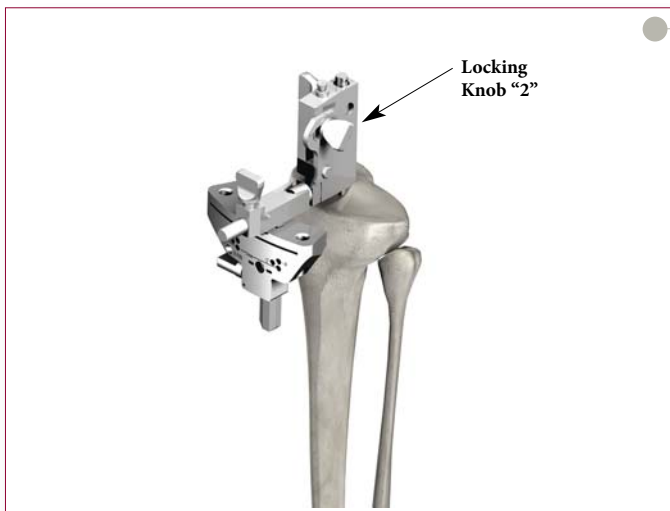

Figure 54
- ▶ If additional posterior slope is required, loosen Locking Knob “2” and set the slope. Once the correct slope is attained, securely tighten Locking Knob “2” to set the final position of the jig (Figure 54).